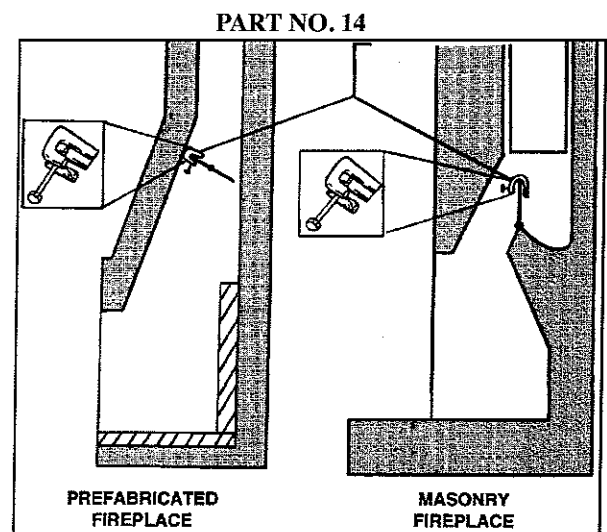

Figure 2. Damper stop clamp
- B. Open fireplace damper fully and install Damper Stop Clamp with 1/4 x 2" set screw (Part #14). This clamp is designed to allow any pilot combustion by-products to vent (See Figure 2.) Should the Damper Stop Clamp supplied not fit, a permanent damper stop clamp must be installed that will keep the damper open at a distance of not less than 1 1/2". Damper must be in full open position anytime this unit is in operation.